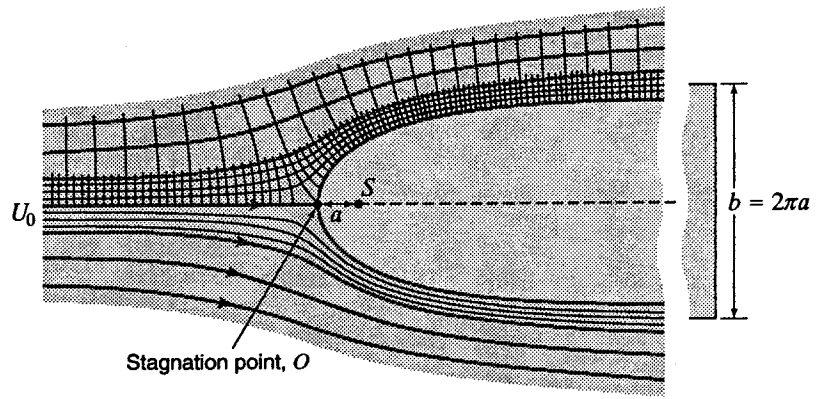

Figure 4.12
14.10 Using the method described in Sample Prob. 14.4, plot the boundary of the body and a set of streamlines for a steady two-dimensional flow past a body such as that of Fig. 4.12, for $b = 15$ m using a scale of 1 cm = 2 m.
For Fig. 4.12,
Note from Fig. 4.12: Stagnation point O is on the x -axis at $x = -b/2\pi = -15/2\pi = -2.39$ m